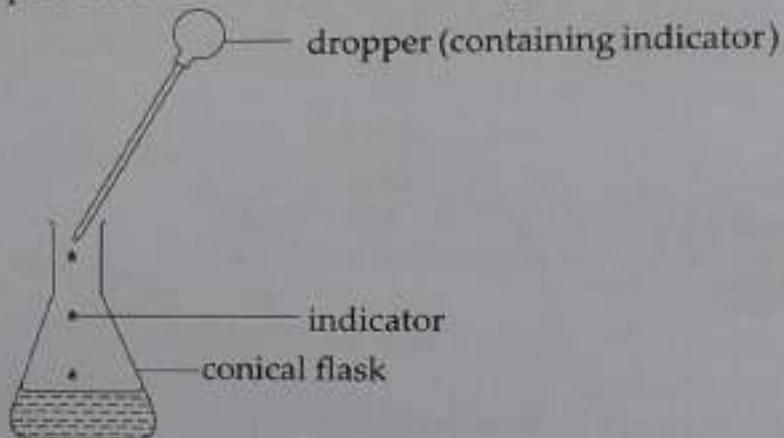

Fig. 4.5: Adding drops of indicator into the standard solution.
- Add 2 - 3 drops of the indicator as shown in Fig. 4.5.